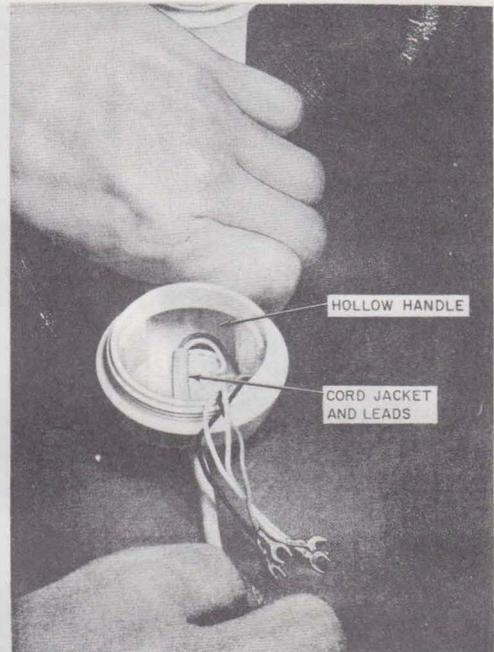

Fig. 10B—Handset Cord Replacement
- (2) Pass the leads through hollow handle (folded over), Fig. 10B and C, into the receiver end of handle.